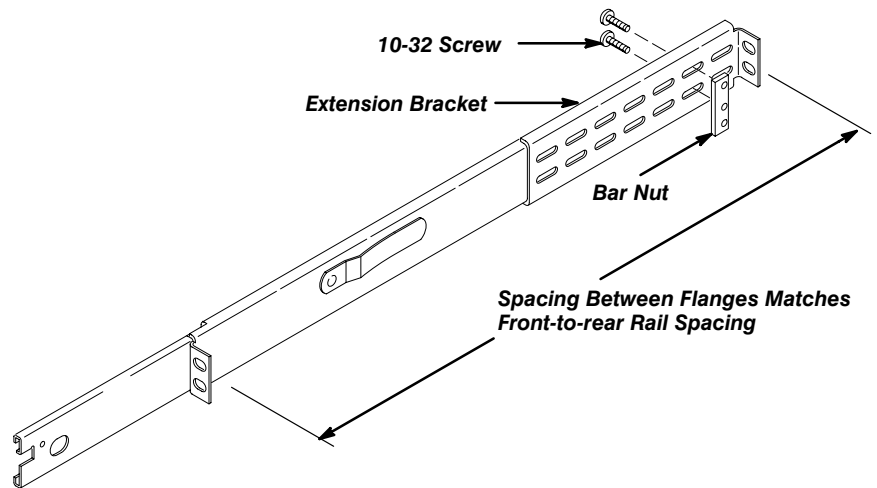

Figure 26: Attaching Extension Brackets
2. Attach the extension brackets to the slide-out tracks. See Figure 26.
- a. Align the extension brackets to the right and left slide-out tracks as shown in Figure 26 so that the flange-to-flange distance matches the front-to-rear rail spacing measured in Step 1.
- b. Loosely secure the extension brackets to the slide-out tracks using two screws (10-32) and a bar nut for each assembly as shown in Figure 26.